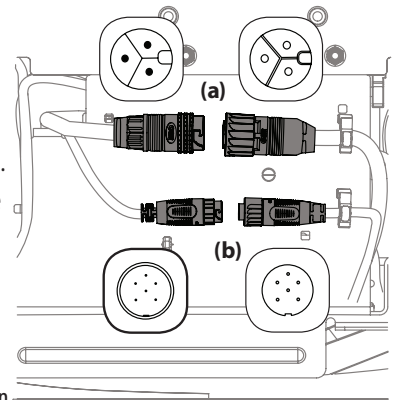

Figure 21
3. Disconnect the deck motor(s) from the adapters on the underside of the tractor. Rotate the connectors 1/4-turn counterclockwise and pull down. See Figure 21.